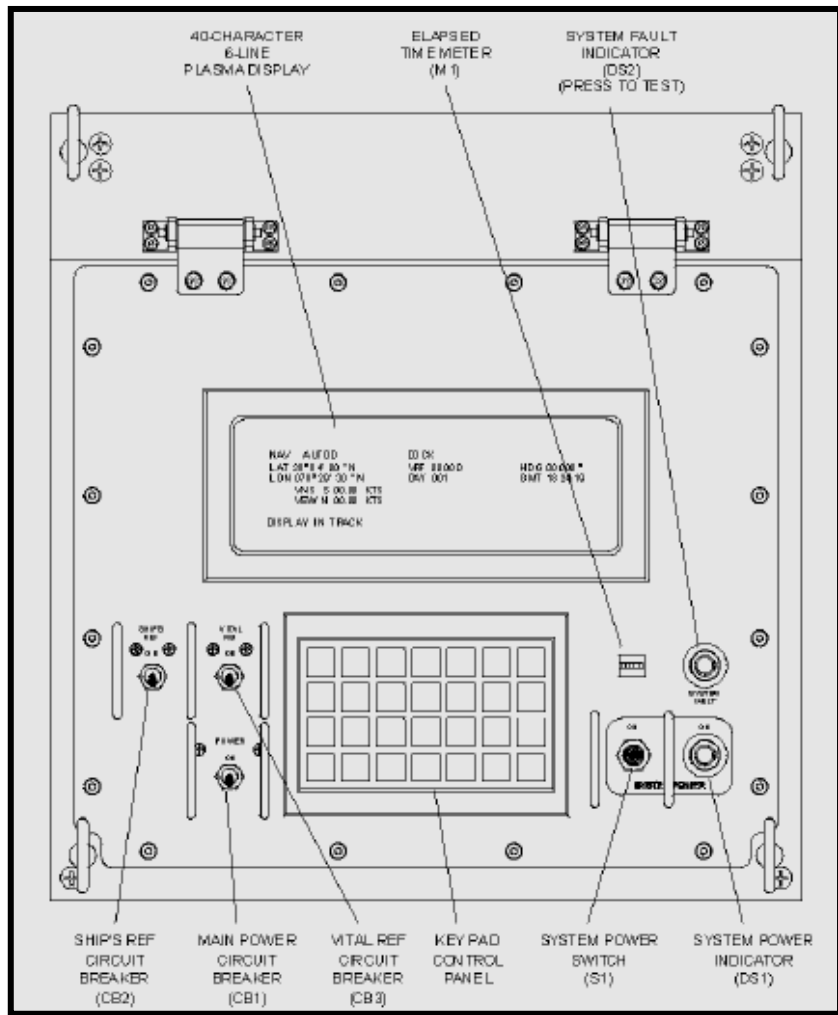

Figure 4-42.— Top Panel Controls and Indicators.
This section identifies all operation control functions and describes their use, provides instructions for turning on and operating the AN/WSN-7B(V) Ring Laser Gyro (RLG), and presents information for identifying system fault conditions. The top panel controls and indicators are shown in Figure 4-42. Operation procedures associated with testing, troubleshooting, optical alignment, and installation configuration are included in the appropriate chapters in S9427-AT-MMO-010/WSN-7.
System operating controls (Figure 4-42) consist of the power controls and indicator; a system fault indicator; a keypad, which provides all operator control interface; a menu display, which provides all mode and status information; and displayed menus, which allow selection of various control functions and display of specific data.